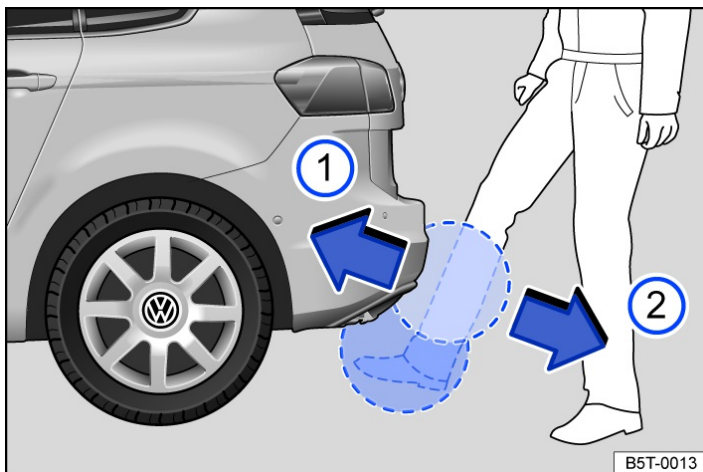

Fig. 1 Sensor-controlled luggage compartment opener (Easy Open).
- In the boot lid, press and hold the  → Fig. 1 button until the hazard warning lights flash.
- Move your foot and shin quickly towards the bumper. The shin must be located in the upper sensor area and the foot in the lower area → Fig. 1.